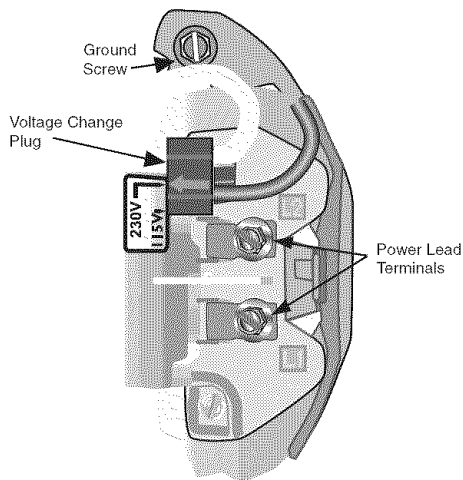

Figure 4: Voltage set to 230 volts, Plug Type
- Step 7. Connect current carrying conductors to terminals L1 and L2 under motor canopy. When replacing motor, check wiring diagram on motor nameplate against Figures 4 and 5. If the motor wiring diagram does not match either diagram, follow the diagram on the motor.
- IMPORTANT:** 115/230 Volt single phase models are shipped from factory with motor wired for 230 volts. If power supply is 115 volts, remove motor canopy and reconnect motor as shown in Figures 4 and 5. Do not try to run motor as received on 115 volt current.